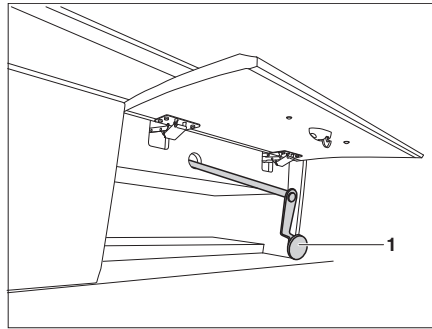

Fig. 157 Emergency operation for the electrical pull-down bed
- ▶ In the case of a power failure the electrical pull-down bed can also be moved with an emergency crank (Fig. 157). This is located behind a storage compartment flap.